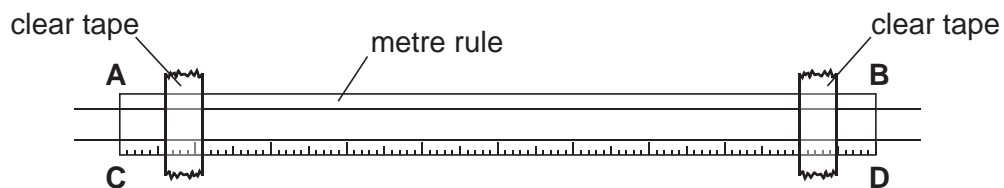

Fig. 3.1
- (v) Two lengths of bare resistance wire taped to a metre rule and labelled as shown in Fig. 3.1 (see note 1).